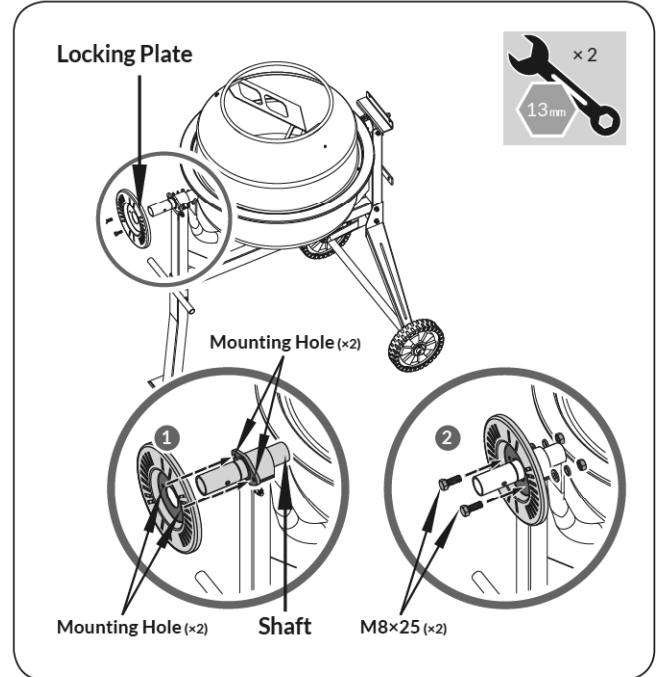

Figure 5a
1. Slide the locking plate over the large diameter shaft (at the "leg side" of the frame) with the rim facing inwards as shown. Insert two M8×25 bolts into the mounting holes, and secure each with a nut, lock washer and flat washer. (See **Figure 5a**)